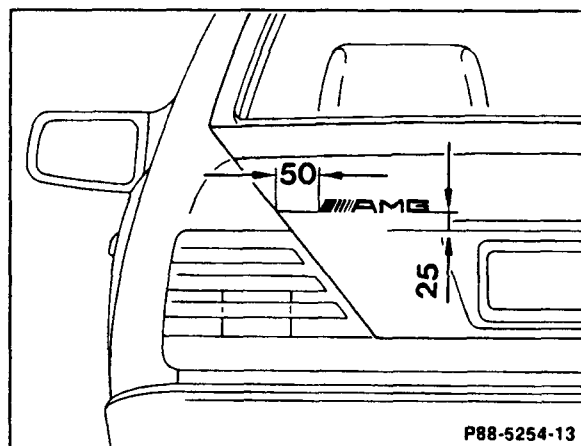

Figure 15
1. Warm AMG logo and mounting surface to 40 °C using heat gun. Apply logo according to Figure 15.